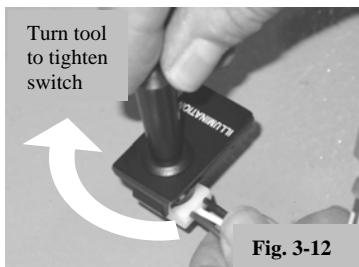

Fig. 3-12
- (o) Tighten the switch as tightly as possible by turning the switch installation tool clockwise. (Fig. 3-12)
- (1) Push in as you turn.